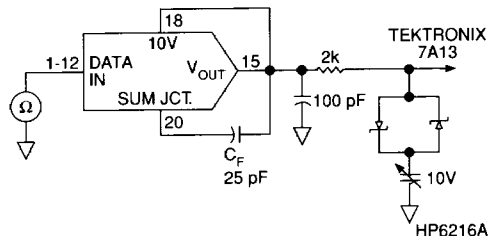

FIGURE 1
5. C_F = 0, see Figure 1.
Voltage Output. Three settling times are specified to $\pm 0.01\%$ of full scale range (FSR); two for maximum full scale range changes of 20V, 10V and one for a 1 LSB change. The 1 LSB change is measured at the major carry (0 1 1 1 . . . 11 to 1 0 0 . . . 00), the point at which the worst case settling time occurs. The settling time characteristic depends on the compensation capacitor selected, the optimum value is 25 pF as shown in Figure 1.
Gain and offset drift are minimized in the SP DAC87 because of the thermal tracking of the scaling resistors with other device components. Connections for various output voltage ranges are shown in Table III. Settling time is specified for a full scale range change: 4 microseconds for a 10 k Ω feedback resistor; 3 microseconds for a 5 k Ω feedback resistor when using the compensation capacitor shown in Figure 1.